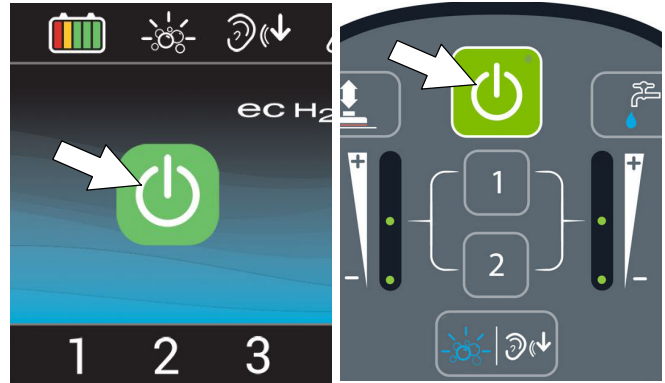

FIG. 84
- Press the 1-STEP button to activate the scrub function (Figure 84). The scrub head will lower to floor.